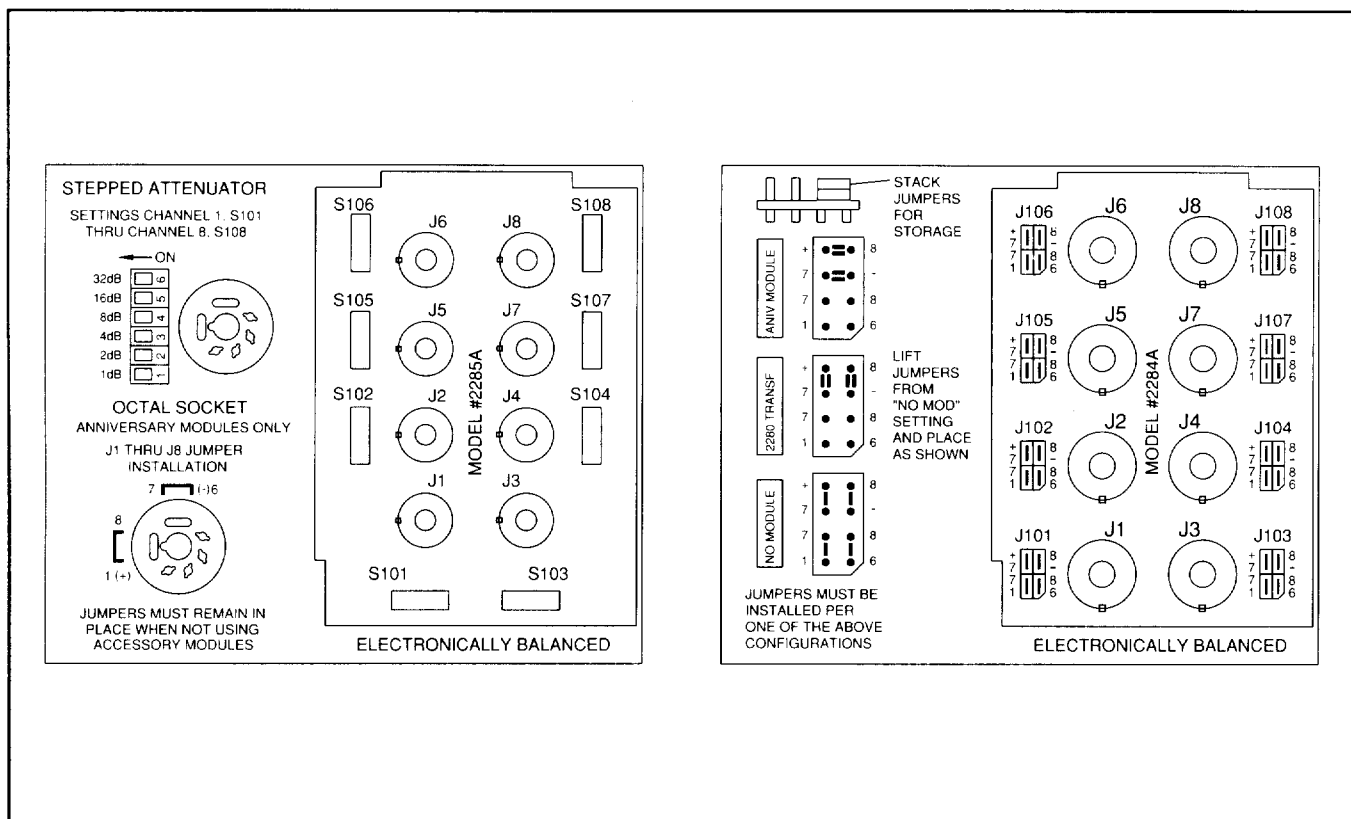

Figure 2 Layout of the Input Modules
The first unit is the 2285A which has electronically-balanced inputs and offers each channel a stepped input attenuator to reduce incoming signals in discrete increments. The six attenuation switches provide each channel 1, 2, 4, 8, 16 and 32 dB attenuation. Figure 2 shows the attenuation designation for these switches. By closing the switches in combination, any attenuation may be obtained in 1 dB steps to a maximum of -63 dB. Signal requirements for rated output is 0.775 Vrms with the stepped attenuator at 0 dB. This module allows for the connection
The 2284A input module offers the same electronically-balanced inputs and quality performance as the 2285A except it does not include the stepped input attenuators. Signal requirements are otherwise unaffected. This module is designed for use with external attenuators such as the Altec Lansing 8428A, and allows for the connection of eight Anniversary Series or 15335A modules. It is necessary to strap the corresponding connector on the input card when using optional modules (see Figure 2).
tacle of the 2284A input board. Channel designations of the transformer receptacles are shown in Figure 2. Remove the jumpers between pins 1 and 8, 6 and 7 of the receptacle before attempting to plug in the transformer module.
2. If optional input modules are to be installed, plug the modules into the input section according to channel designation shown in Figure 2.